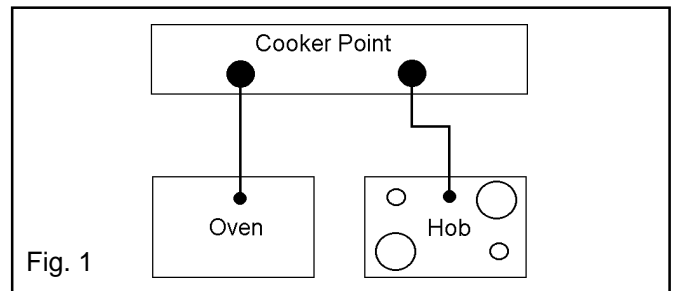

Fig. 1
- c) If you wish to connect an oven and a hob to a cooker point you can by connecting the oven and hob separately to the cooker point. Oven and hob units should be separately connected to a control panel. See Fig. 1.